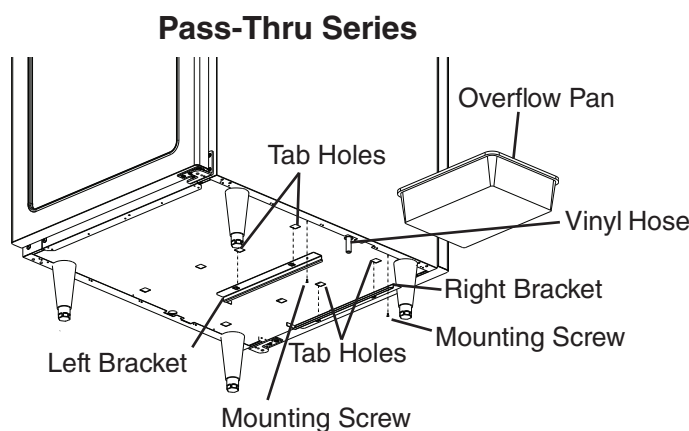

Fig. 2
- 1) Attach the overflow pan brackets by engaging the tabs on the brackets through the holes in the bottom of the appliance and securing with the 2 mounting screws provided. See Fig. 2.